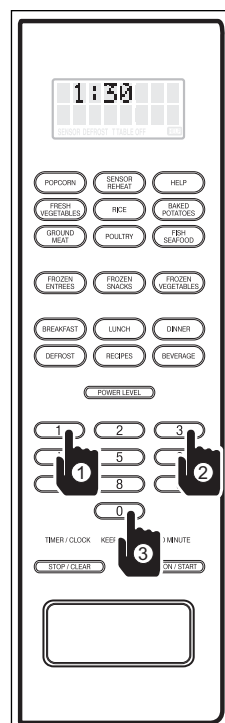

Figure 3-19.
3. Enter the time of day by pressing the numbers in sequence. For example: If setting the time of 1:30, press the number 1 key, then the number 3 key, then the number 0 key and the display will flash “1:30 - PRESS CLOCK” (See Figure 3-19).